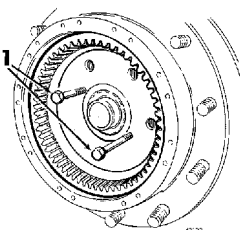

Figure 9
29. Place the ring gear hub in position, see Figure 9 and fit the hub nut while the lifting device is holding the hub at right angles to the axle.